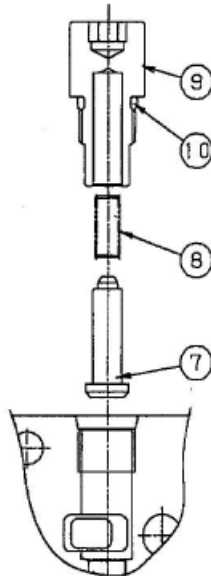

Figure 15. Check valve
- ③ Check that O-ring (⑩) is securely installed with check valve plug (⑨) and then screw it into the part where check valve has been assembled.
- ④ Fasten check valve plug (⑨) with specified torque with 8 mm hexagonal wrench.
- The other check valves can be assembled in the same manner, use suitable parts in the drawing. (see figure 15 and 16)